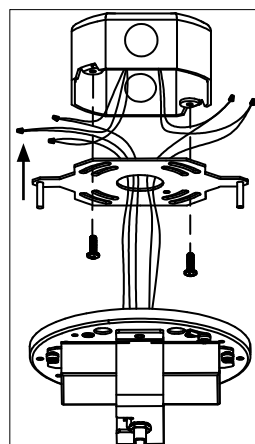

Figure 2: Mounting Kit (Generic)
4. Make connections from driver to supply wiring: [Figure 2]
5. Attach mounting kit onto 4" octagonal wiring box using [2] (provided) Phillips head screws. [Figure 2]